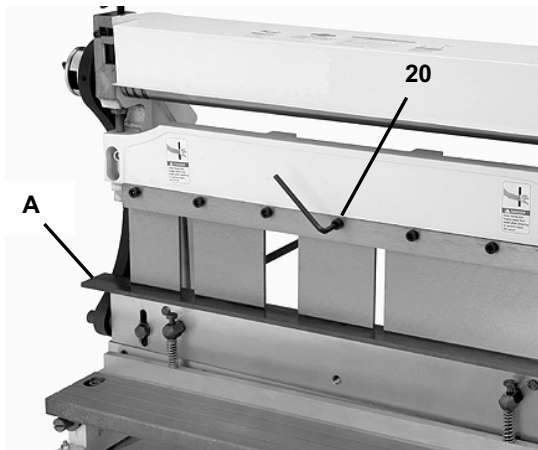

Figure 12-2
1. Place a thin and flat piece of spacer material (A) over the notch of the brake die. This flat surface will help you obtain equal finger length.
- Loosen, but do not remove, the six cap screws (#20) shown in fig 12-2